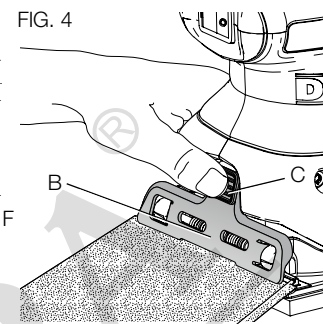

FIG. 5
- Stretch paper over the base plate/pad (D) and begin to pivot the rear paper clamp (F) around to its locking position. Lock one side clamp lever (G) by placing it behind the tab (H, Fig. 5) on the base plate/pad and then repeat with the second side clamp lever.